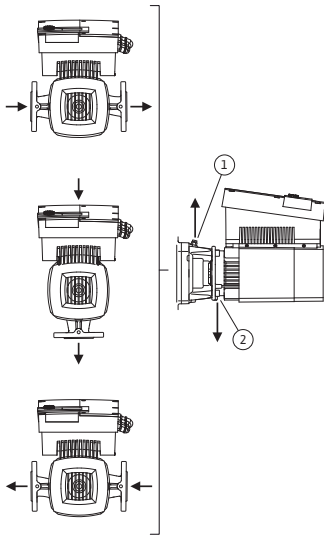

Fig. 23: Permitted installation positions with horizontal motor shaft
The permitted installation positions with horizontal motor shaft and electronic module facing up (0°) are shown in Fig. 23. The permissible installation positions with electronic module mounted on the side (+/- 90°) are not shown. Any installation position is allowed except for “electronic module facing down” (- 180°). The venting of the pump is only ensured when the air vent valve is pointing upwards (Fig. 23, Item 1).
Only in this position (0°) can condensate be directed away via an existing drilled hole, pump lantern and motor (Fig. 23, Item 2).
- With a horizontal motor shaft, the condensate hole must be positioned towards the bottom (Fig 23, Item 2). If necessary, the motor must be turned accordingly.